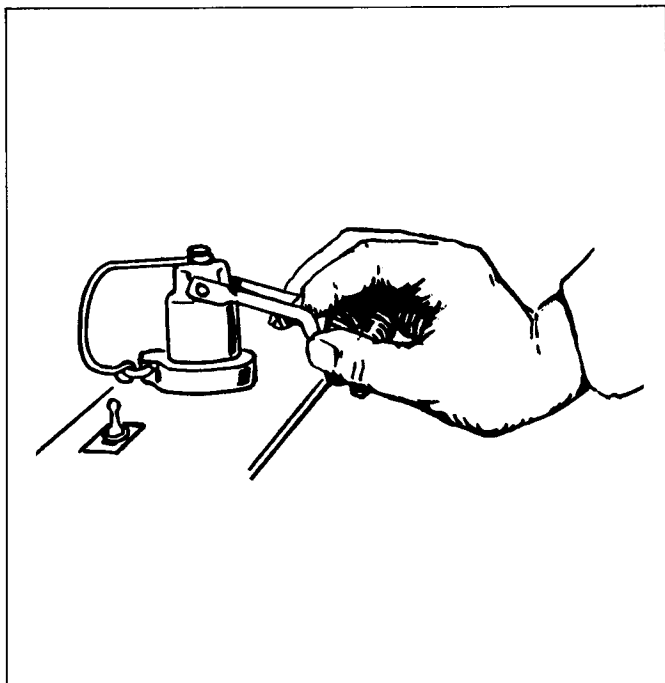

Figure 6. Receptacle Handle in Withdrawn Position
- e. Replace cap and screwdown tightly. Be sure that handle remains in withdrawn position. Refer to Figure 6.